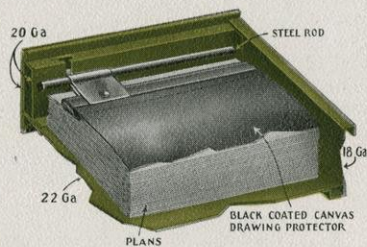

Fig. 2 Showing construction of planfile drawer, (inside view of front). Also drawing protector and front lock.
All Hamilton Steel Planfile Drawers are equipped with Hamilton Drawing Protectors shown in Figs. 2 and 3.
**THE DRAWING PROTECTOR:** This is a recently perfected device which protects the plans in a steel planfile drawer. It keeps the dust out, and holds the plans flat even when drawer is loaded to its maximum capacity. When closed, the cover is stretched forward until the hook on the rod engages in the slot on the inside of the drawer front. (See fig. 2). This slot is so constructed that the hook cannot slip out even under pressure. This drawing protector is made of black coated canvas and is fastened securely at the back of the drawer. When it is necessary to refer to or remove plans, the cover is disengaged at the front and the rod is placed on the drawer pulls above, out of the way. All Hamilton Steel Sectional Planfile Cabinets, (except Units Nos. 1835 and 1843) are equipped with this device.